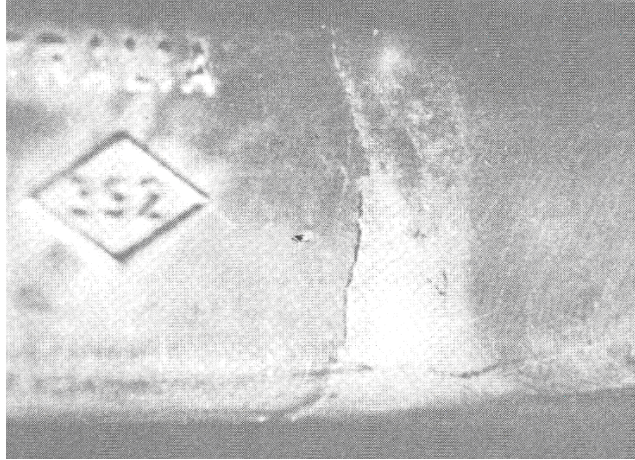

Fig. 9-2. Excessive die temperature may cause the casting to crack when it is ejected. Causes in addition to ejection are shrinkage and internal stresses
**Cracks.** Castings may crack as shown in Fig.9-2, from internal stress or from abnormal pressure during ejection. The first cause, internal stress, is created by excessive metal or die temperatures. If the condition persists after several temperature adjustments have been made, it may be necessary to increase the shot or machine timer settings. The timers should be adjusted only after everything else has failed, and the operator's supervisor should be notified.